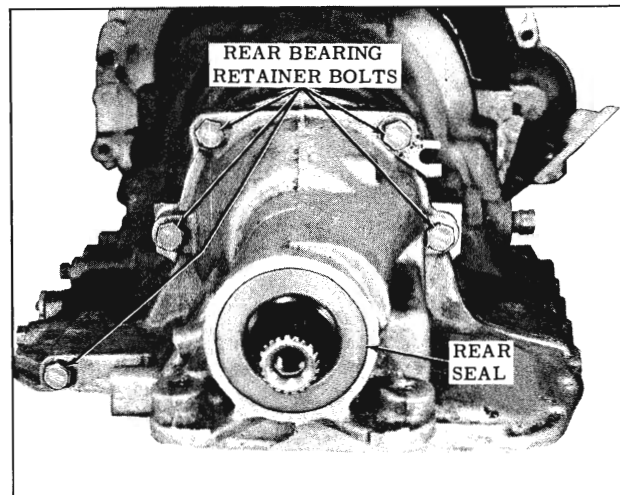

Fig. 3-231 Removing Rear Bearing Retainer
23. Remove 3 internal and 5 external rear bearing retainer to case attaching bolts, remove breather pipe clip, and remove retainer assembly with bearing and gasket. (Fig. 3-231)